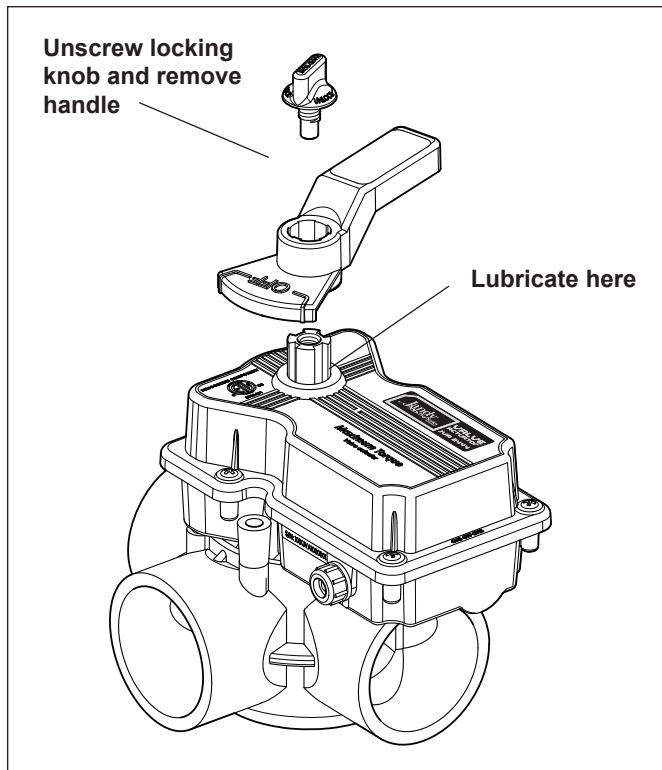

Figure 13. JVA Shaft Seal
2. Remove the locking knob and handle (see Figure 13).
3. Spread a small amount of Jandy Pro Series Lube or other silicone base lubricant around the actuator shaft just above the lock out ring (see Figure 13).
4. Reinstall handle and locking knob. Only tighten knob one (1) turn.